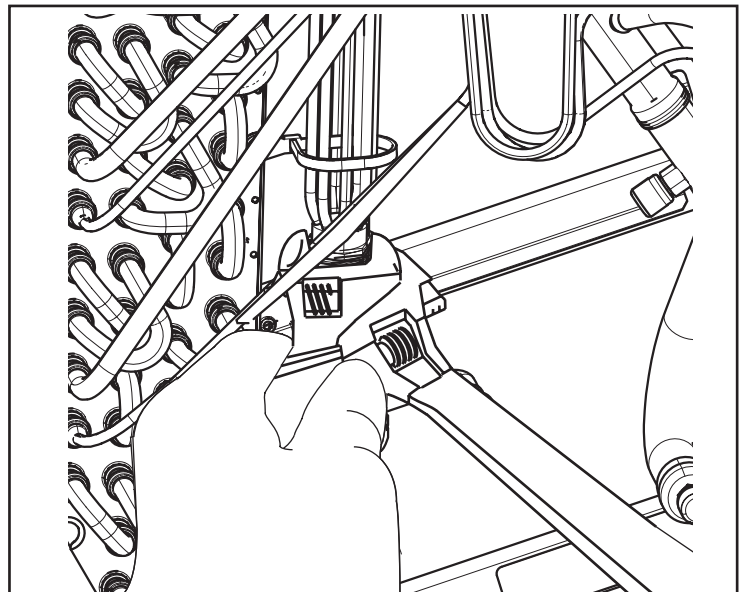

Figure 35 – Remove stub fitting
5. Using two adjustable wrenches, remove the stub tube assembly as shown in Figure 35 and discard.